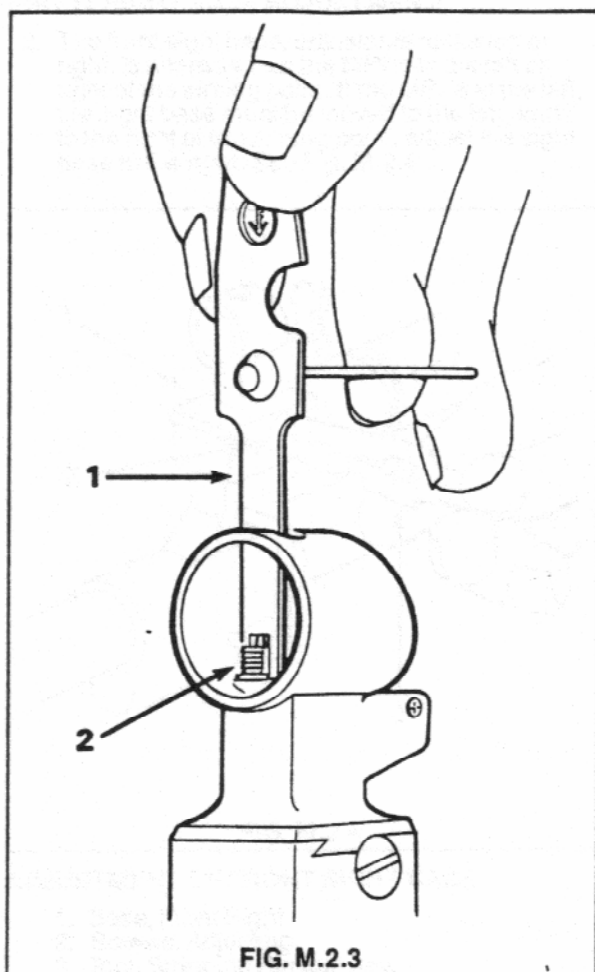

FIG. M.2.3
6. Using the combined stripping pin and key tool adjust front sight upwards if the MPI is above aiming point and downwards if below. See Fig. M.2.3.